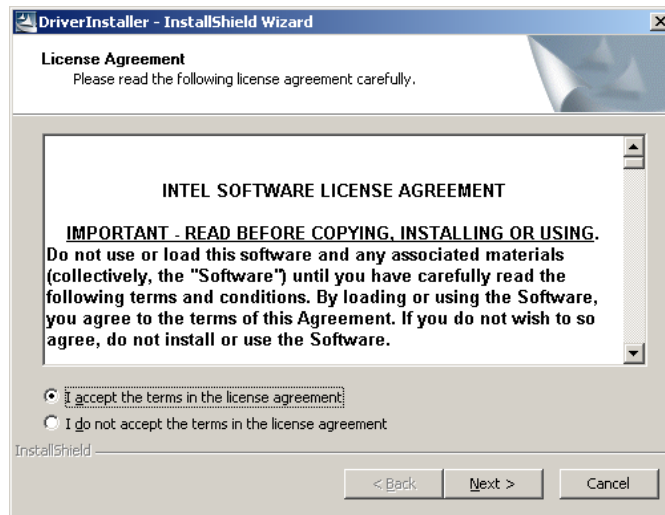

Figure 7-20: Network Adapter License Agreement
Step 6: The license agreement in **Figure 7-20** appears.